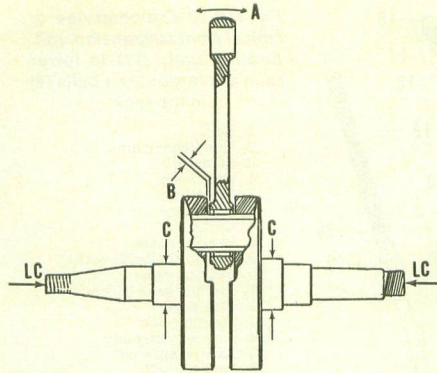

Fig. Y19-19—Crankshaft should be supported between lathe centers (LC) when making runout checks.
Crankshaft runout, measured on main bearing surfaces (C—Fig. Y19-19), should be no more than 0.03mm (0.0012 in.). Small end shake (A) should be no more than 2.0mm (0.078 in.). Side clearance (B) between large end of connecting rod and crank wheel should be 0.4-0.5mm (0.016-0.019 in.). Width of crankshaft, measured on fly-wheel outer faces, should be 64mm (2.52 in.) for "MX" models, "SC" models, DT250A and DT360A. Width of crankshaft for all other models is 62mm (2.44 in.).